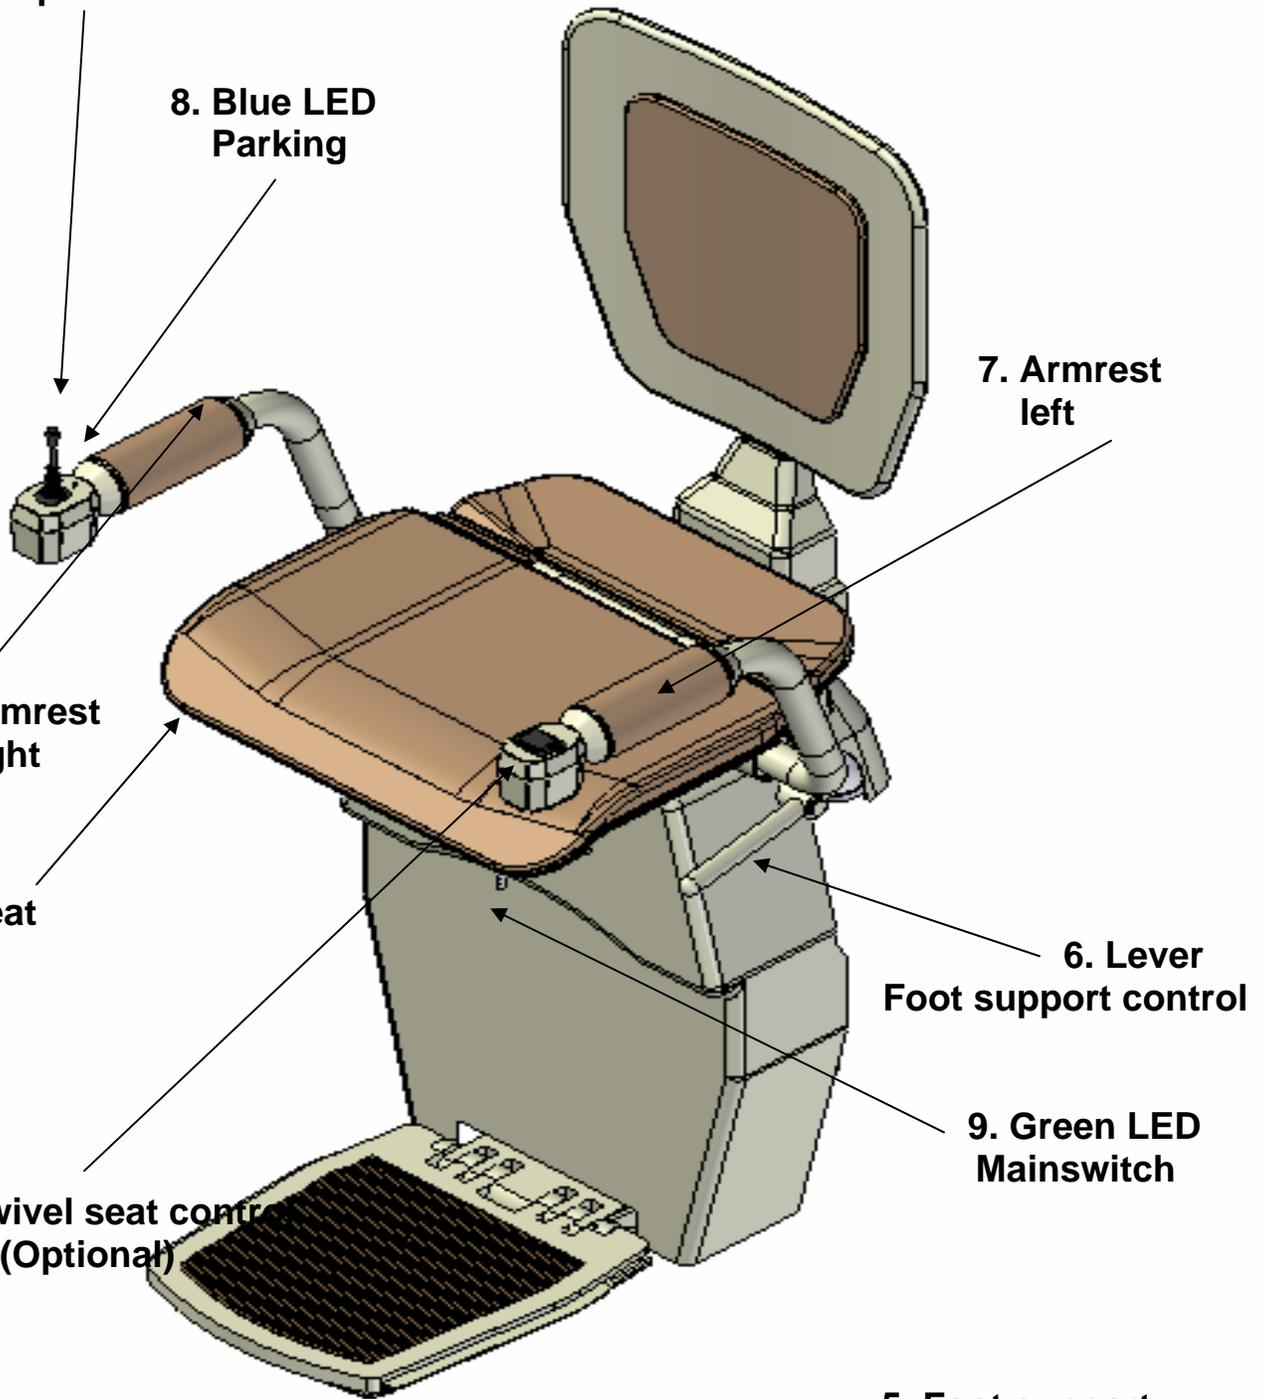

Fig. 3
Please tilt down the armrests and the seat before using the lift. (Fig. 3; (2)(3)(7)
The green LED (Fig.3 (9) ) indicates the function of your HAWLE stairlift.